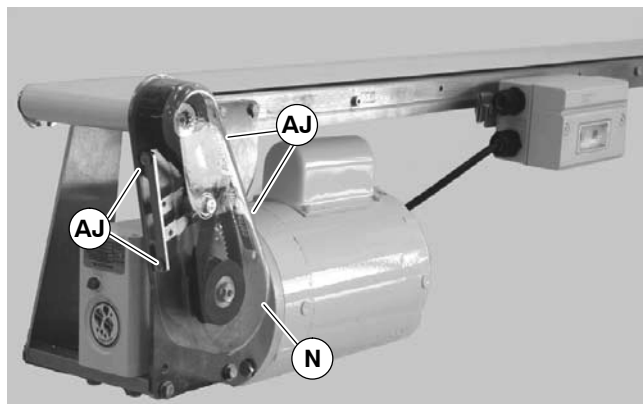

Figure 32
NOTE: Figures 32 through 35 shown tensioning procedure for a timing belt. Tensioning a timing chain is similar except as noted.
1. Loosen four (4) screws (AJ of Figure 32) and remove cover (N).